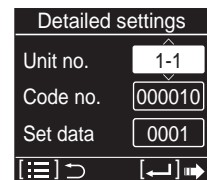

Fig. 4-12-3-4
- (4) Keep pressing the  button for 2 seconds or more during selecting “Code no.”. (Fig. 4-12-3-5)